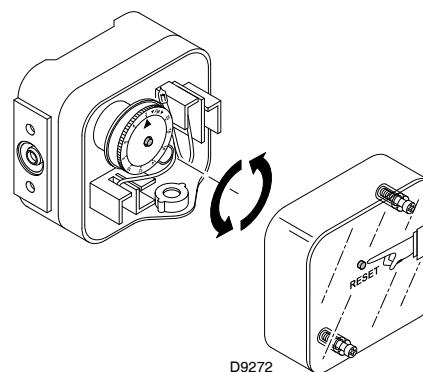

Fig. 37
- Adjust the maximum gas pressure switch (Fig. 37) to the end of the scale.
Adjust the maximum gas pressure switch (Fig. 37) after having performed all other burner adjustments with the maximum gas pressure switch set to the end of the scale.